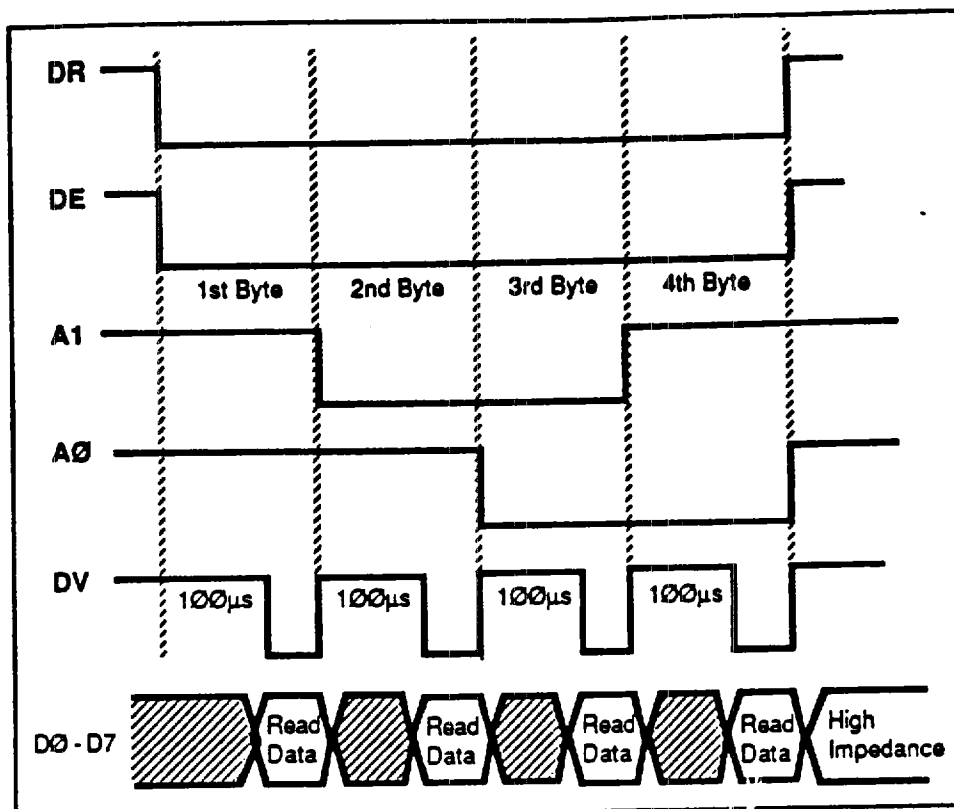

Figure 4-3. Timing—8-Bit Parallel Output
This section explains the process of reading a position in 8-bit segments. Wire and configure your decoder (DIP switches and jumpers) as described in Chapter 2, Getting Started (*8-Bit Parallel Interface*). Use DIP switch S5 to select the binary (OFF) or BCD (ON) output format. To read a position (4 bytes) from the AL Encoder, refer to Figure 4-3 and follow the steps below.